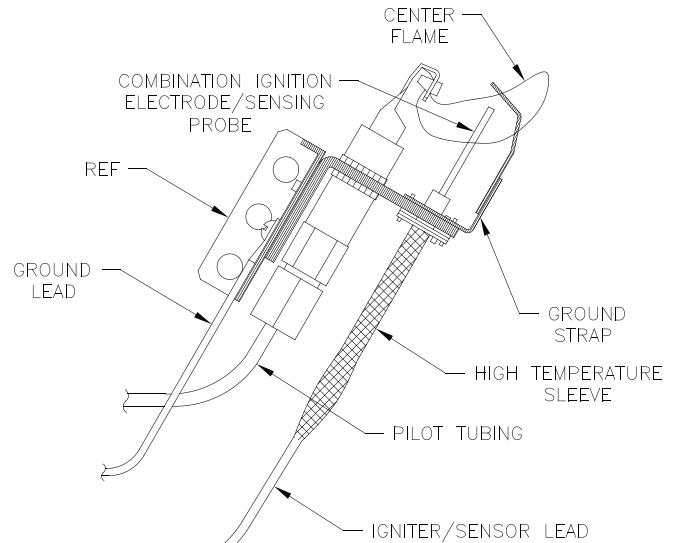

Figure 12: Pilot Burner Flame
1. See Figure 12. The pilot burner should be lit only if thermostat is calling for heat. The pilot burner produces three (3) flames. The center flame should be steady, medium hard blue enveloping $3/8$ to $1/2$ inch of thermocouple.